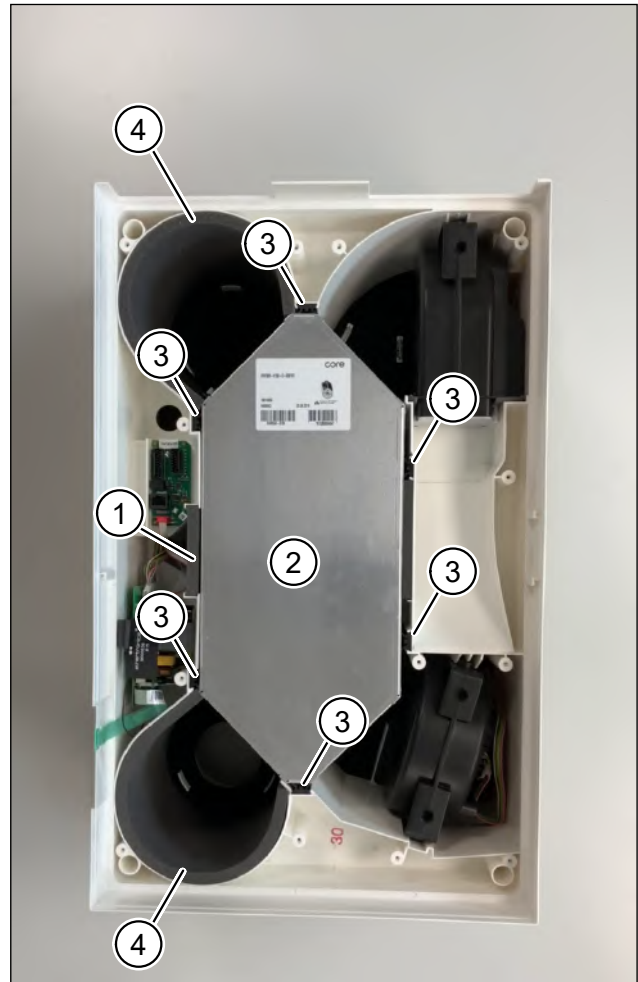

Fig. 4: Remove the heat exchanger
- ▶ Remove the seal (item 1 in Fig. 4) from the electronics compartment.
- ▶ Lift out the heat exchanger (item 2 in Fig. 4).
- ▶ Remove the 6 sealing profiles (item 3 in Fig. 4).
- ▶ Remove the filter channel insulation pieces (item 4 in Fig. 4) on the extract air and supply air sides.